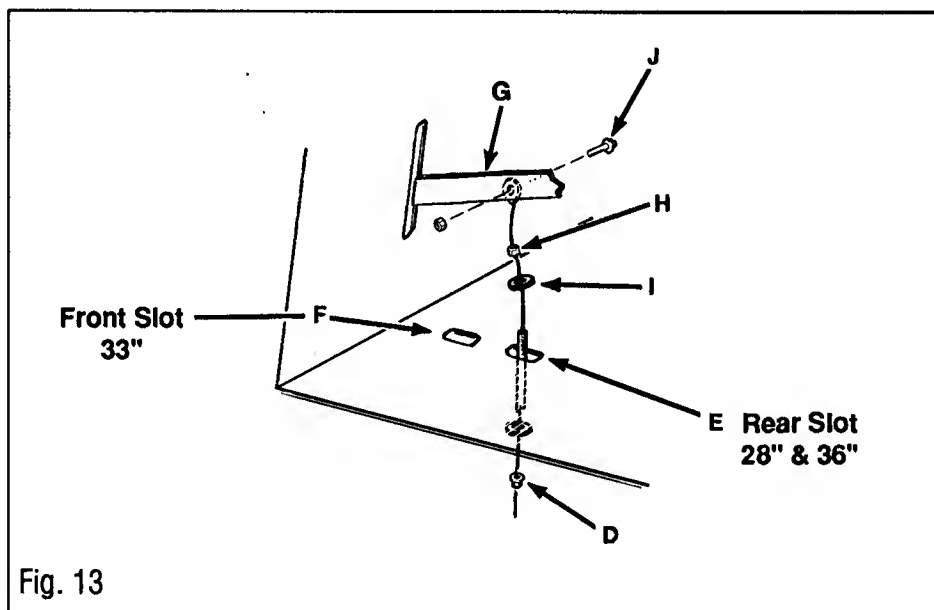

Fig. 13
1. Thread nut (D, Fig. 13) downward on cable threads until it stops.
2. Thread nut (H) and washer (I) upward and off cable assembly.
3. **28" & 36" DECKS ONLY:** Insert cable, nut (H) and washer (I) upward through rear slot (E) in frame.
- 33" DECKS ONLY: Insert cable, nut (H) and washer (I) upward through front slot (F) in frame.
4. Place nut (H) and washer (I) at top of slot and screw down tightly, securing cable assembly to frame.
5. Connect cable to the mower blade drive (PTO) lever (G). Fasten cable to the right side of PTO lever when facing toward front of rider. Secure with screw (J) and nut as shown in Fig. 13. Tighten screw, but allow some play so cable may pivot.